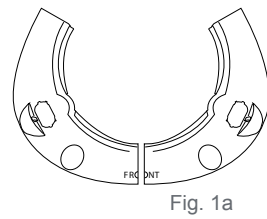
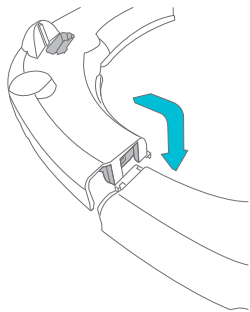

Fig. 1a
Fig. 1b
- 1 • Select the two pieces of the base that together spell “FRONT” (Fig 1a). Then attach the two pieces (Fig 1b).